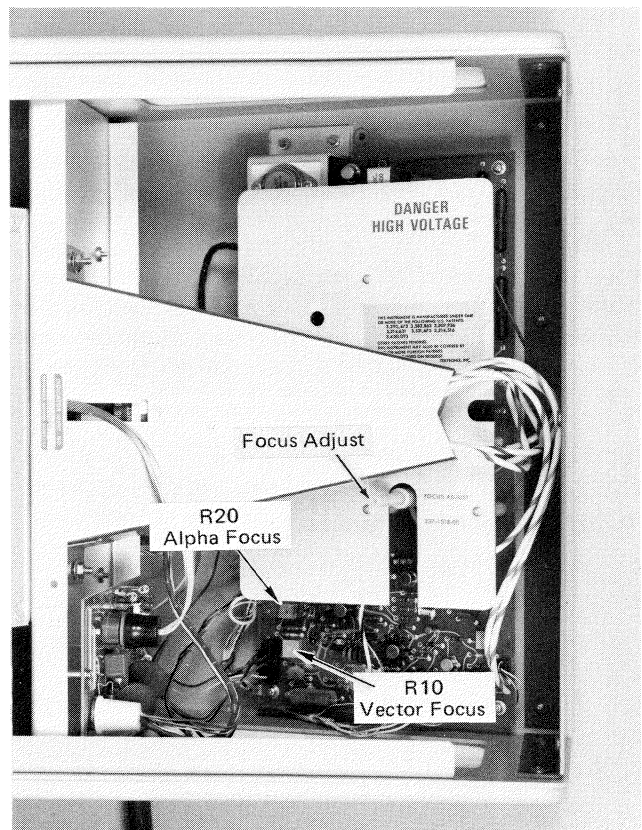

Fig. 4-10. Alpha Focus and Vector Focus Adjustment Locations.
b. Adjust FOCUS ADJUST (alongside yoke housing in display unit—Fig. 4-10) in small increments, pressing K after each adjustment, until the dots achieve optimum roundness and the two diagonal legs appear similar. Press PAGE as necessary to keep writing in the corner of the display area.
(1) Place LOCAL/LINE switch at LOCAL.
(2) Press PAGE.
(3) Using the Space Bar, LINE FEED, RETURN and K keys, enter several Ks in each of the four corners. Then position the cursor to the center of the display area.
(4) Alternately enter a K and adjust Alpha Focus (R20 in the display unit; Fig. 4-10) until center focus and corner focus are approximately the same.
c. Adjust Vector Focus (R10 in display unit; Fig. 4-10) for sharpest focus of the line segments near the center of the display area.